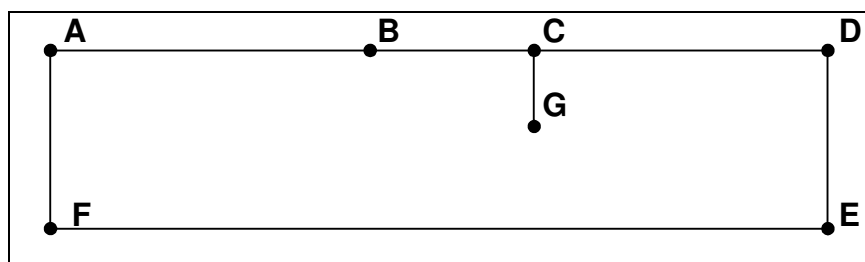

Figure 5-3 Arcs Connecting Points
2. Click on the existing points to create arcs between the points around the perimeter of the model. Start by clicking on point A, as shown in Figure 5-3, then click on B and so on to point F to A.
4. Your model should now look like Figure 5-3.